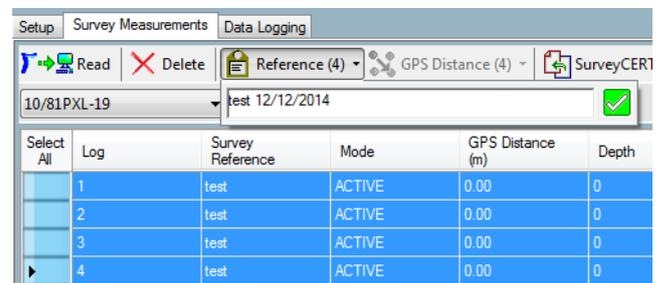

Figure 7.8: Editing the Survey Reference
2. Press Reference, see figure 7.8